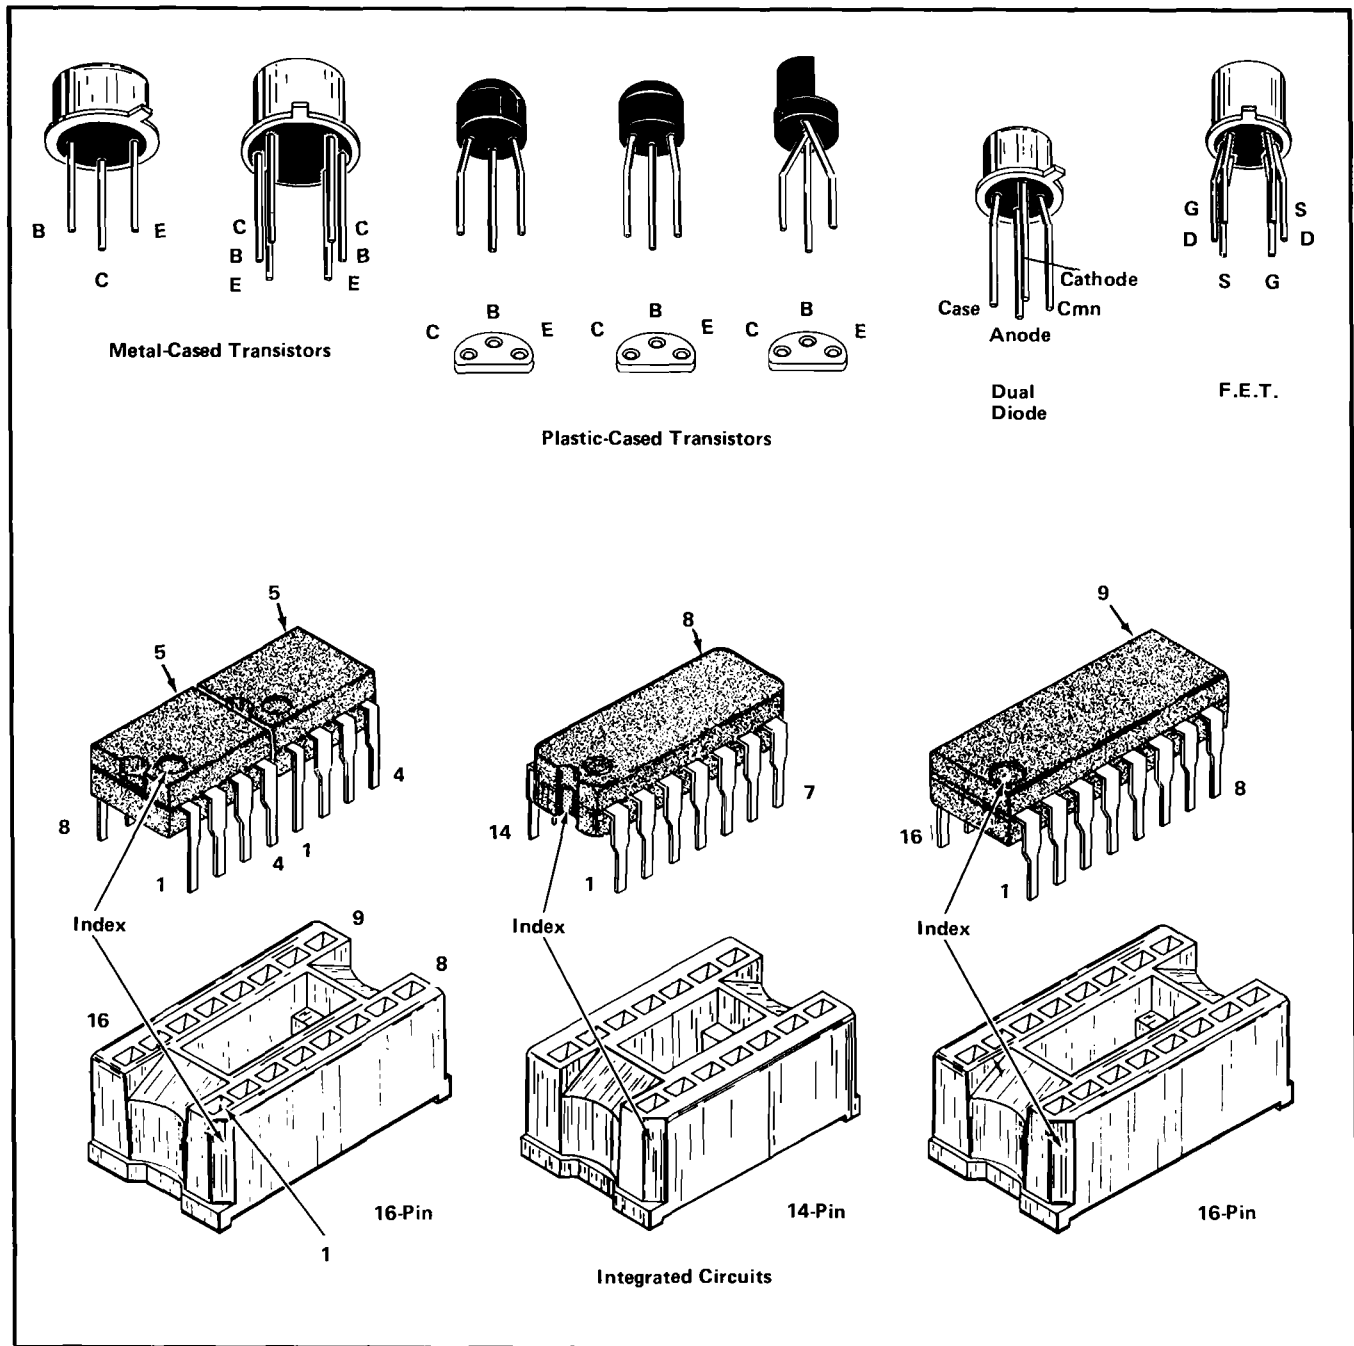

Fig. 4-1. Electrode Configuration for Semiconductors used in this instrument.
Semiconductor Lead Configuration. Fig. 4-1 shows the lead configuration of the semiconductor devices used in this instrument.
A. TRANSISTORS AND INTEGRATED CIRCUITS. The best check of transistor and integrated circuit operation is actual performance under operating conditions. If a transistor or integrated circuit is suspected of being defective, it can best be checked by substituting a component known to be good; however, be sure that circuit conditions are not such that a replacement might also be damaged. If substitute transistors are not available, use a dynamic tester (such as Tektronix Type 576). Static-type testers may be used, but since they do not check operation under simulated operating conditions, some defects may go unnoticed. Fig. 4-1 shows base pin and socket arrangements of semiconductor devices. Be sure the power is off before attempting to remove or replace any transistor or integrated circuit.
Replacement semiconductors should be of the original type or a direct replacement. Fig. 4-1 shows the lead configuration of the semiconductors used in this instrument. If the replacement semiconductor is not of the original type, check the manufacturer's basing diagram for proper basing. An extracting tool should be used to remove the 14 and 16 pin integrated circuits to prevent damage to the pins. This tool is available from Tektronix, Inc. Order Tektronix Part No. 003-0619-00. If an extracting tool is not available when removing one of these integrated circuits, pull slowly and evenly on both ends of the device. Try to avoid having one